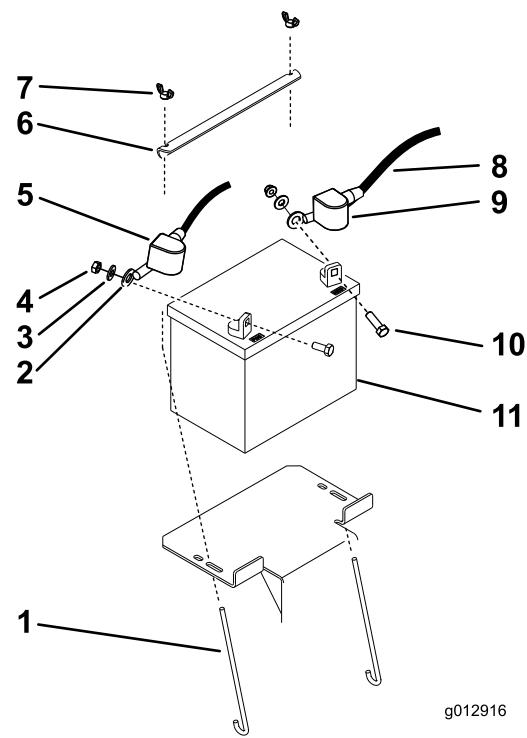

Figure 37
3. Lift the black rubber cover on the negative cable. Disconnect the negative battery cable from the negative (-) battery terminal (Figure 37).
4. Slide the red terminal boot off the positive (red) battery terminal. Then remove the positive (red) battery cable (Figure 37).
5. Remove the battery hold down plate (Figure 37) and remove the battery.
1. Place the battery onto the machine (Figure 37).
3. First, install the positive (red) battery cable to positive (+) battery terminal with a nut, washer and bolt (Figure 37). Slide the rubber cover over the post.
4. Then install the negative battery cable and ground wire to the negative (-) battery terminal with a nut, washer and bolt (Figure 37). Slide the rubber cover over the post.